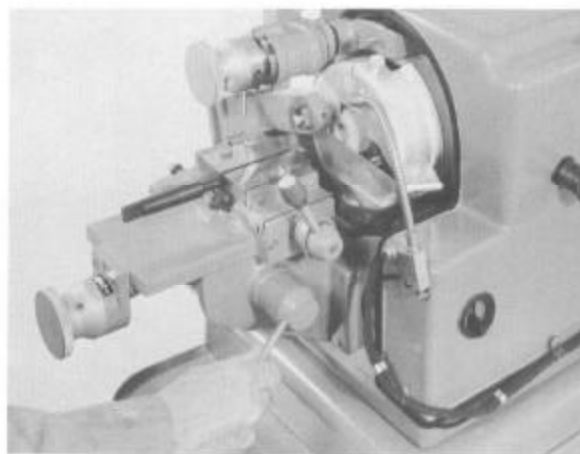

Figure 4d
6. Retract the slide with the rapid feed lever until the locator swings to its retracted position. (See Figure 4d.)